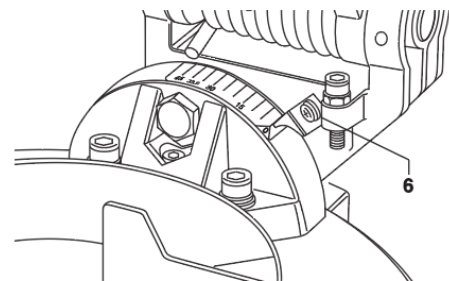

Fig.14
3. Make sure the bevel indicator is aligned with the bevel index "0" mark. If adjustment is necessary, loosen the bevel indicator screw 6 until the indicator aligns with the 0° mark (Figure 14)